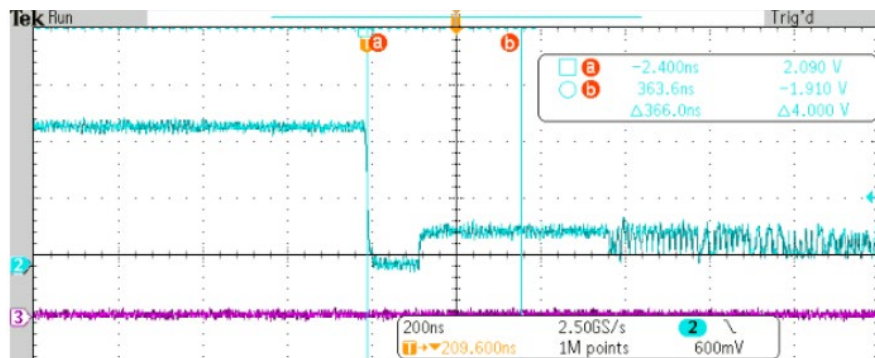

Figure B1: MIPI Packet Low Power to High-Speed Transition
- ❗ **IMPORTANT:** The high speed (HS) clock mode may require a new release of 4000-OEM firmware. Contact Support for details.
- Figure B1 shows how a scope trace can be used to measure and compare values as the FPGA code is being developed. The trace in this example was taken off the N phase of Tx Lane 0 (the P phase looks different).